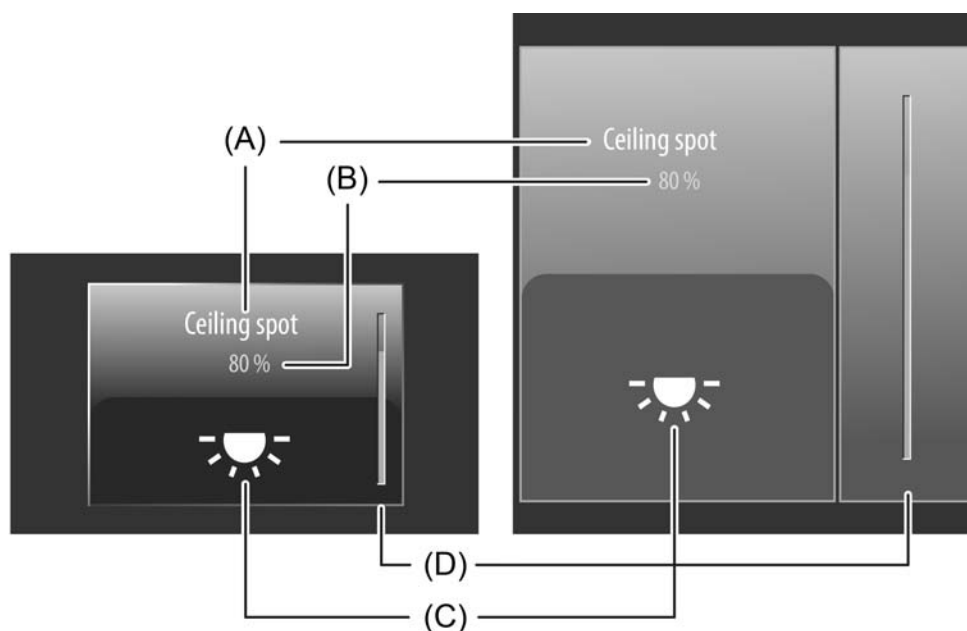

Figure 40: Example of an operating and display element of the channel function "1-byte value transmitter"
The display area contains different display elements (figure 40) that are influenced by ETS parameters. A name can be assigned to each KNX channel in the ETS (A). This text name is centred in the display element for display whereby controllable KNX functions are identified for the user (e.g. "ceiling spot"). In addition, a status value (B) can be displayed below the name, which displays values in plain text ("0...255" / "0...100 %") depending on the object value of the value feedback of an actuator. The data format of this status value indicator is determined by the ETS "Function" parameter. In the function as "Value transmitter 0%...100%", the displayed value is supplemented automatically by the unit "%". After a device reset, the display shows "---" until a feedback object value of the status text is received.